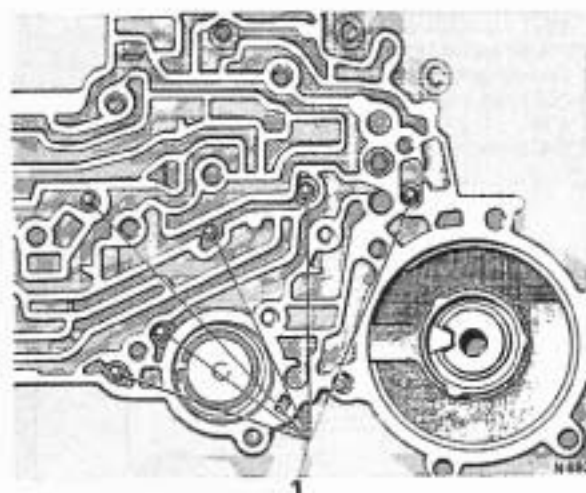

FIG. T216 LOCATION OF CHECK BALLS
8. Remove the six check balls from the cored passages in the transmission case (see Fig. T216).
7. Fit the six check balls into the ball seat pockets in the transmission casing (see Fig. T216).